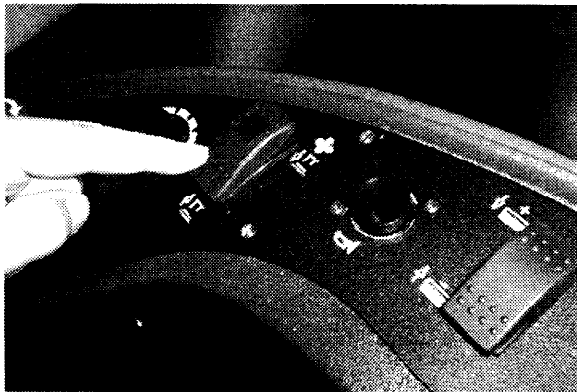

Figure 4
1. Turn key to the on position and raise squeegee mount bracket by pressing vacuum/squeegee switch (Fig. 4).